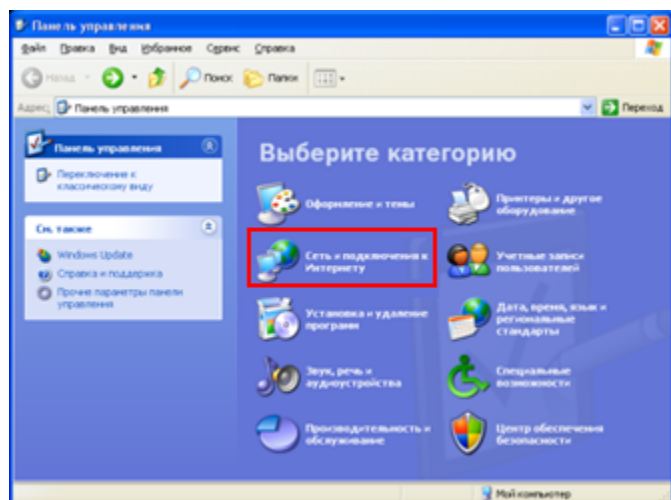

Figure 4.1 - Windows XP control panel
- 1) Push **Start** in the left lower corner in Windows and choose **Control panel**. Then **Network and Internet connection**. (view Figure 4.1).